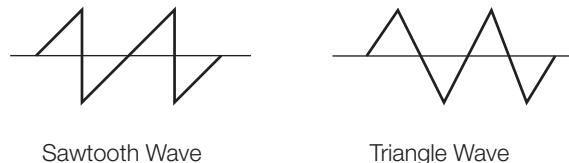

Figure 7. Sawtooth and triangle waves.
**Sawtooth** and **triangle waves** result from circuits designed to control voltages linearly, such as the horizontal sweep of an analog oscilloscope or the raster scan of a television. The transitions between voltage levels of these waves change at a constant rate. These transitions are called **ramps**. Figure 7 shows examples of saw-tooth and triangle waves.